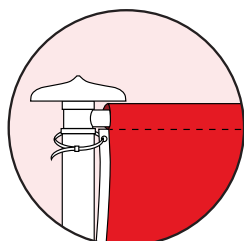
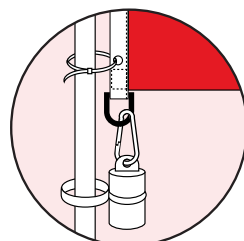

Fig 5a.
Fig 5b.
5. Secure plastic ties through the eyelets and around the pole. **DO NOT OVER-TIGHTEN** (see fig 5a). At the bottom of the flag attach the D-ring to the metal clip on the weight. (see fig 5b)